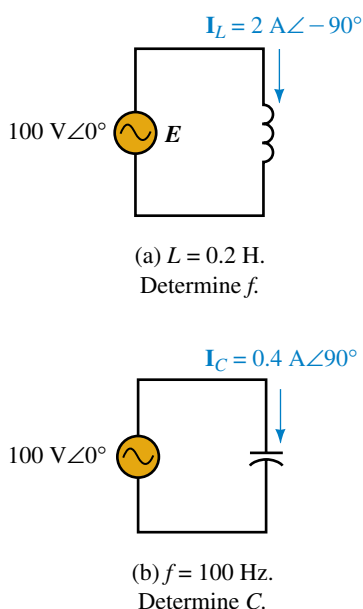

FIGURE 16-57
35. For each circuit of Figure 16-57, determine the unknown.